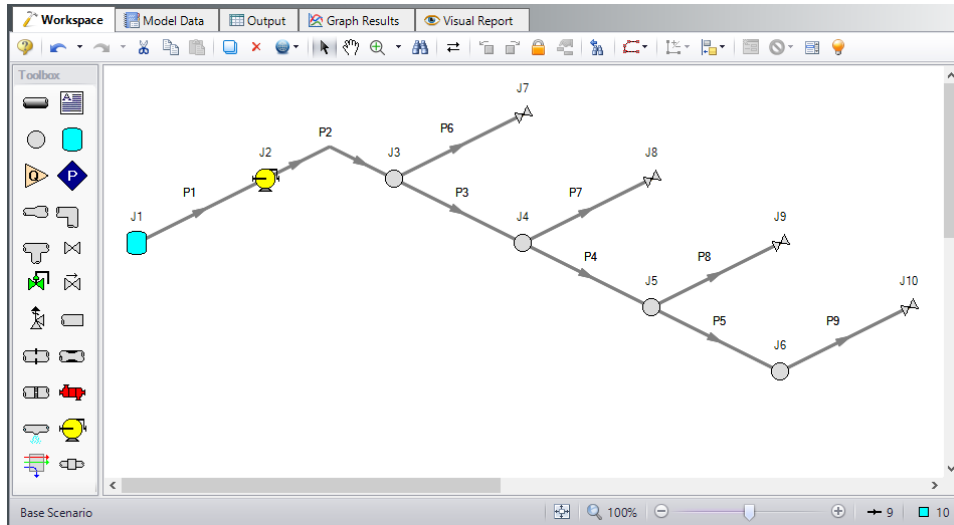

Figure 12: Compressed air system with isometric grid not shown
8. Draw pipes P3-P9, as shown in Figure 12.